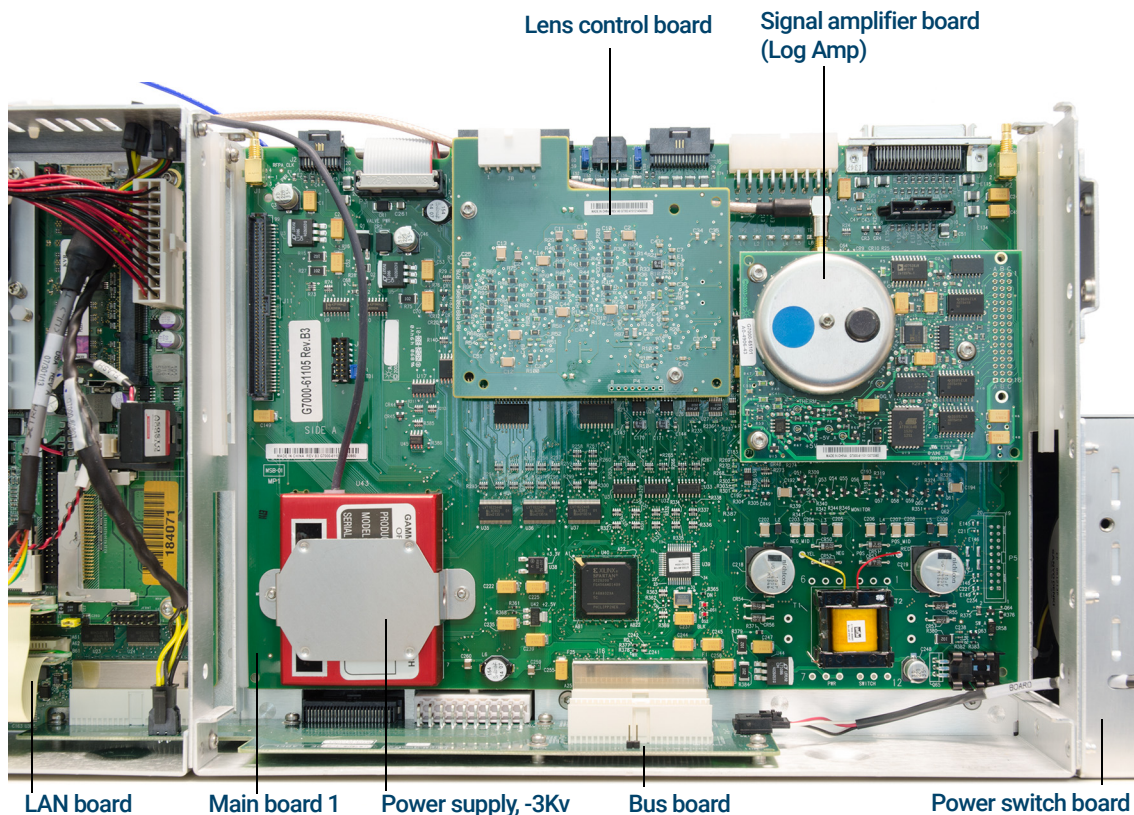

Figure 48. Electronics module, main board 1
- Main Board 1 (See **Figure 48** on page 182.)
- Lens control board (See **Figure 48** on page 182.)
- Signal amplifier board (LogAmp) (See **Figure 48** on page 182.)